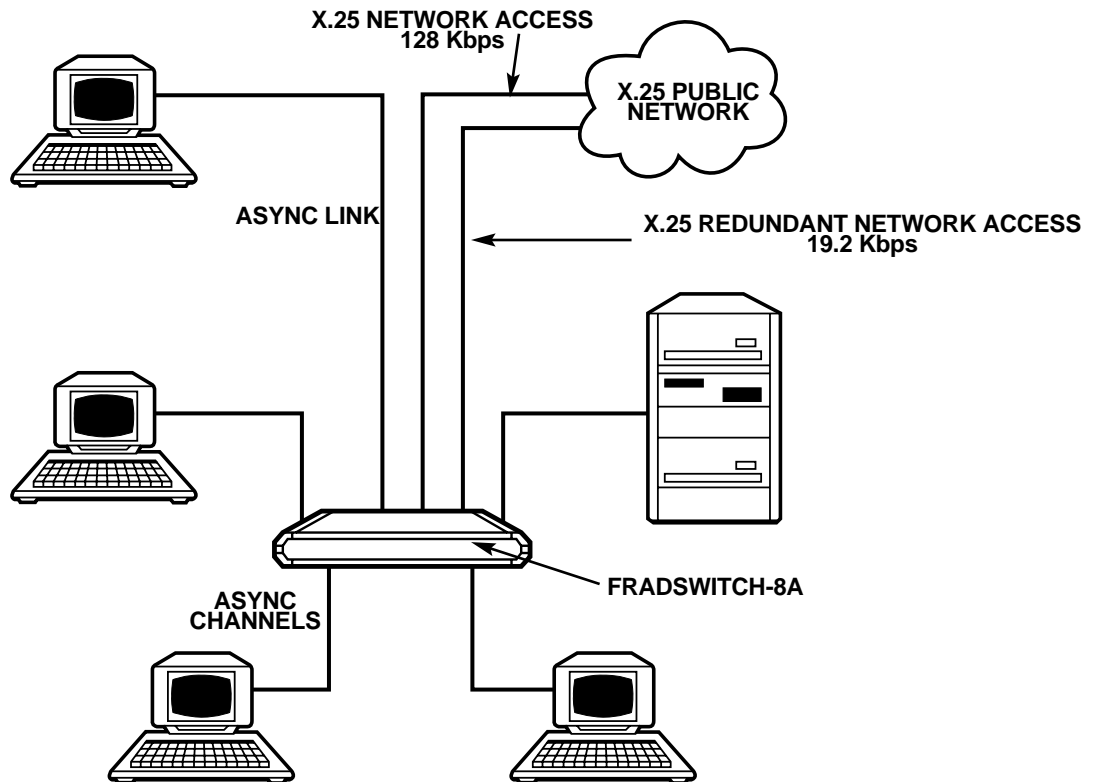

Figure 2-3. Fradswitch-8A serving as a PAD with redundant link and load sharing. One link configured as async channel.
- Public Network access via redundant links. (See **Figure 2-3**.)
The Fradswitch links can be programmed to operate asynchronously, allowing connection of asynchronous devices to the links. When programmed to operate as async, the links operate like Fradswitch series async channels with all the standard facilities. (See **Figure 2-3**.)